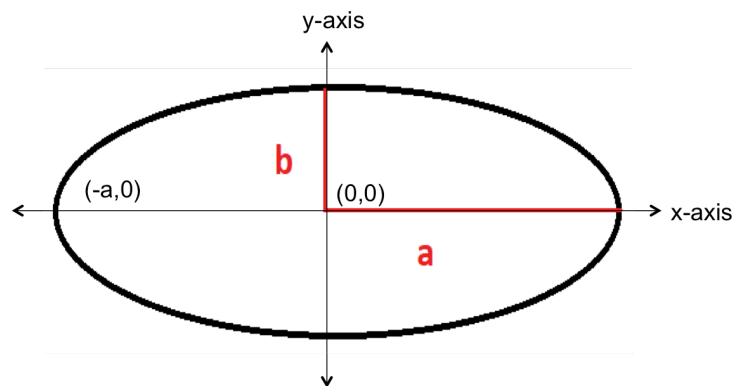

Figure 3. Path to be followed by the robot.
**Task 5** - Implement the program “Ellipse.ino”. The program should make the robot move in an ellipse given by the formula  $\left(\frac{x}{a}\right)^2 + \left(\frac{y}{b}\right)^2 = 1$  (as seen in Figure 3). The robot should stay still until the “select” button is pressed. When the button is pressed, the robot should move on an ellipse at constant linear speed “V”. The parameters “a”, “b”, and “V” will be provided on “EllipseParams.h”. The program should work for any assigned values. On this part, you do not need to worry on whether the robot can traverse the ellipse at the given speed, but you have to include in the report what limits the possible values of “V”. The robot should start on the leftmost point of the ellipse, corresponding to position  $(-a, 0)$  facing the positive y-axis direction. The robot should move in clockwise manner.